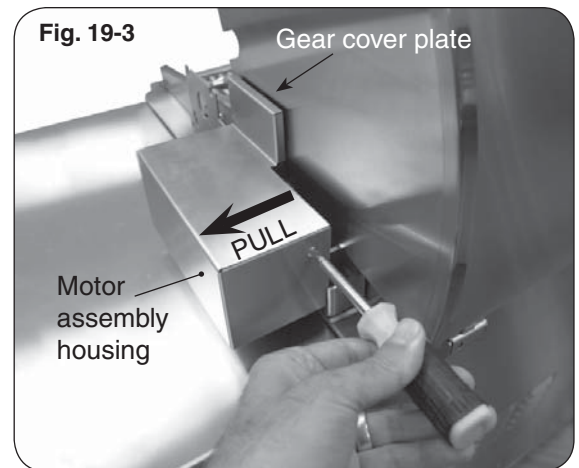

Fig. 19-3
2. Use a Phillips screwdriver to remove the stainless-steel motor assembly housing screw. Pull the top of the housing first up and then outward away from the lid until the top of the shroud clears the lip of the motor mount beneath, then remove the housing completely and set it aside (Fig. 19-3).